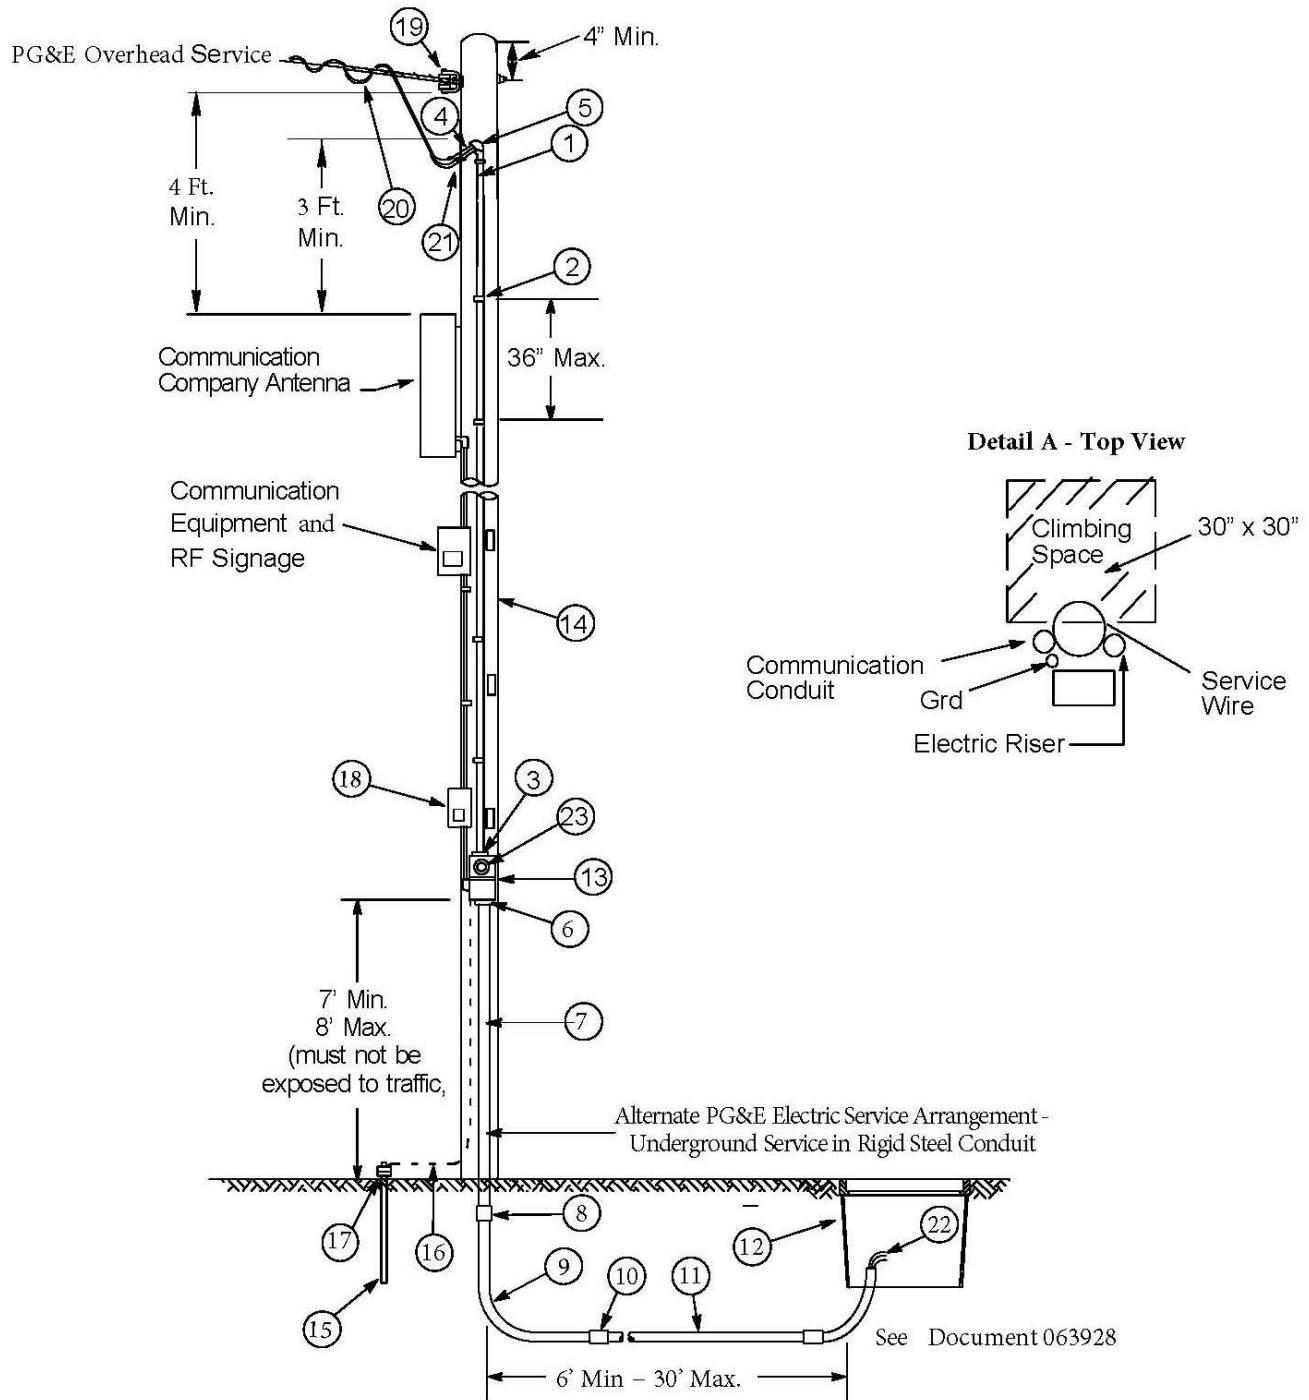

Figure 1
3. Updated the minimum clearances, in Figure 1, from the PG&E service to the antenna is 4 feet, and from the PG&E service to the weatherhead is 3 feet.